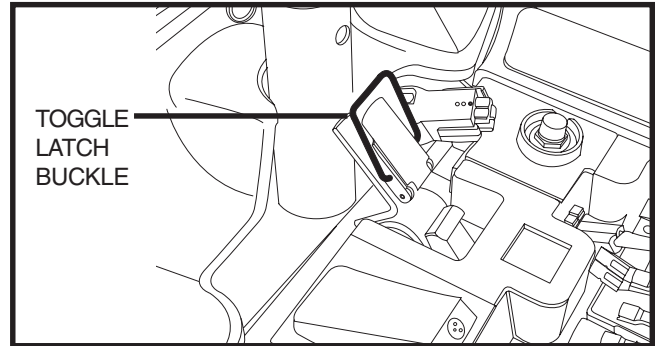

Figure 22. Toggle Latch (Unlatched)
2. Position the toggle latch buckle over the top of the toggle latch. See figure 22.